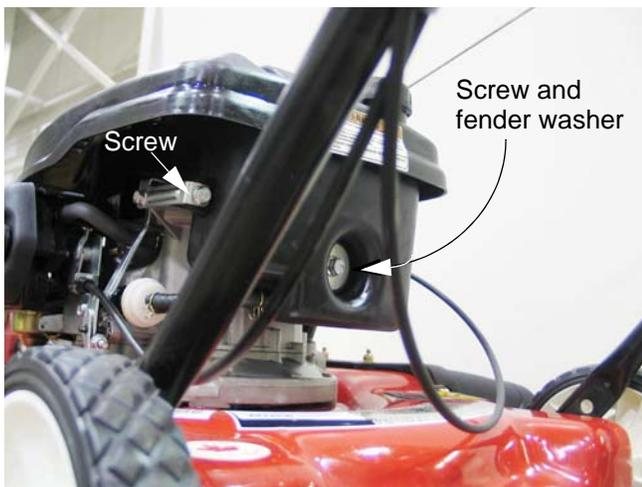

Figure 4.8
4. Unbolt, and remove the tank. See Figure 4.8.